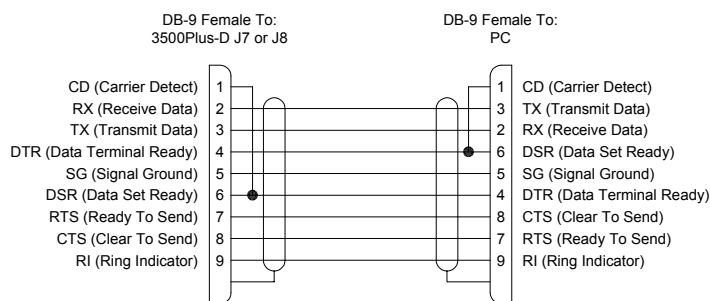

Figure 79. 3500Pro-D RS-232 CPU Link (Null Modem) Cable
- COM 1 is the primary RS-232 CPU Link and may be connected to the PC running 3500Pro Control System software with a null modem cable (Part No. 81-9028-0393-0). If necessary, a cable up to 50 feet in length may be fabricated in the field as shown in Figure 79. COM 1 may only be used with the P1E protocol, at either 9600 or 38400 baud. The communication rate is selected with switch S1 as described in “S1-3 COM 1 Rate” on page 60.